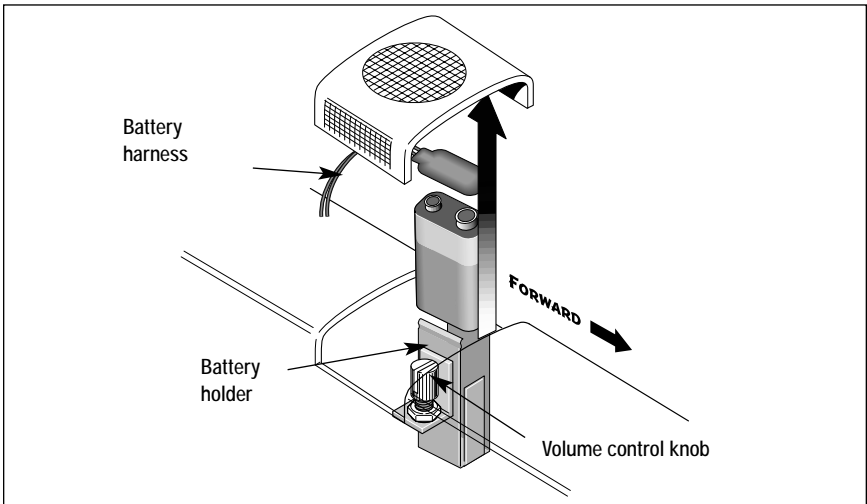

Figure 3. Battery installation (powered A-unit locomotive only)
While the RailSounds sound system is powered through the track, we recommend that you install a nine-volt alkaline battery in each locomotive to prevent the sound system from shutting down during track power interruptions (for example, at a switch or a dirty section of track). Follow these steps and refer to Figure 3 as you install the battery.
1. Carefully lift up and remove the roof-top hatch as illustrated in Figure 3.